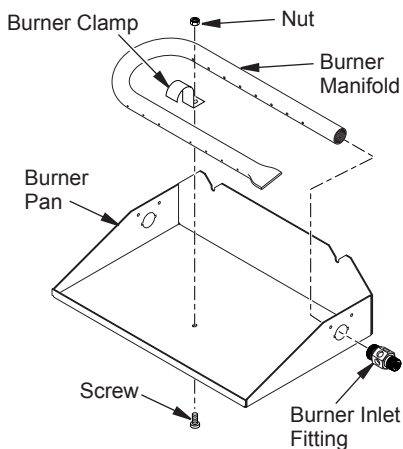

Figure 8 - Installing Burner
3. Unscrew burner inlet fitting from burner manifold (see Figure 8, page 9).